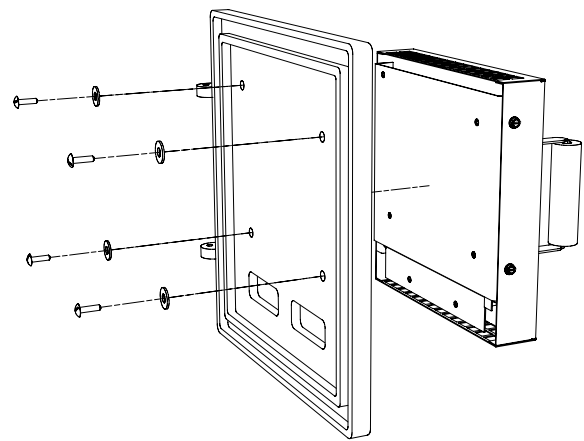

Figure 13b
2. Assemble the feed door pull handle as shown in Figure 13. Install thermostat assembly and cover (complete with handle) as illustrated in Figure 13b.